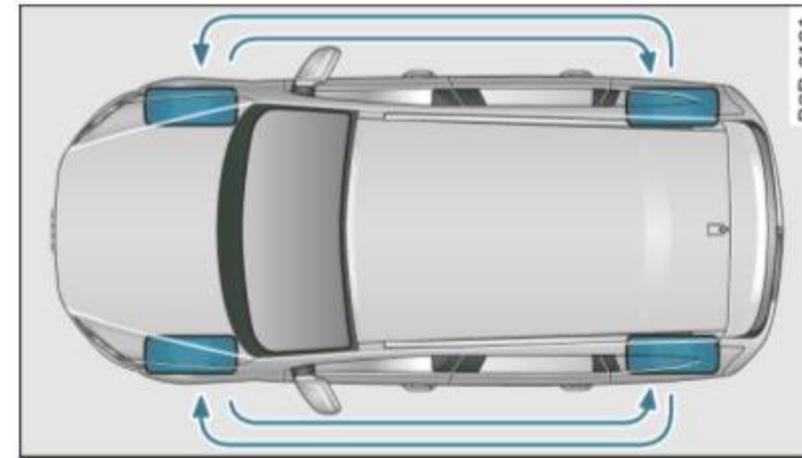

Fig. 210 Rotating tires for more even wear
- Please rotate tires as shown ⇒ fig. 210.